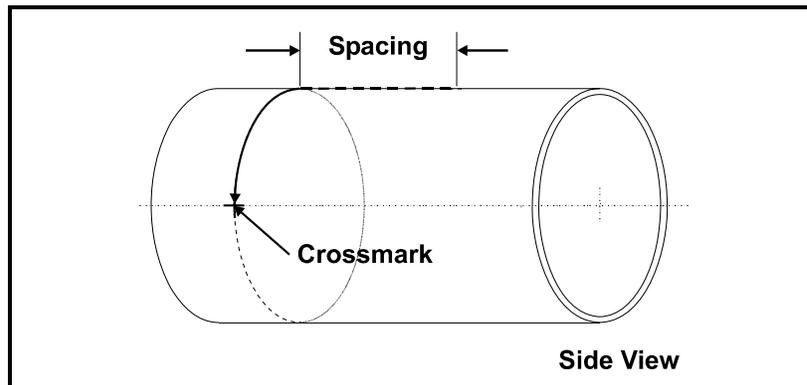

Figure 17: Measuring a Quarter of the Pipe's Circumference
6. From one of the marks, measure around the circumference of the pipe a distance equal to one quarter the pipe's circumference, as shown in Figure 17 below. Make a crossmark with a marker or scribe.